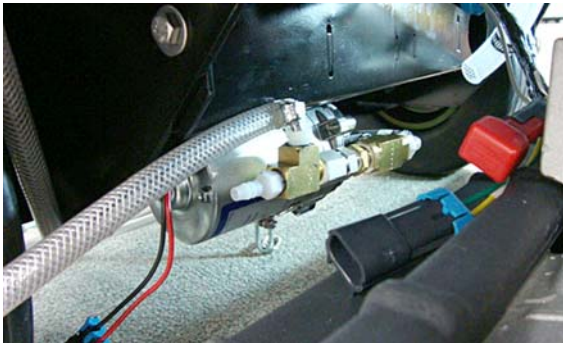

Fig. 23
2. Locate the pump mount tab under the machine and add clamp [p/n 17188] as shown (Figure 23).
3. Slide the pump assembly into the clamp as shown and tighten (Figure 23).